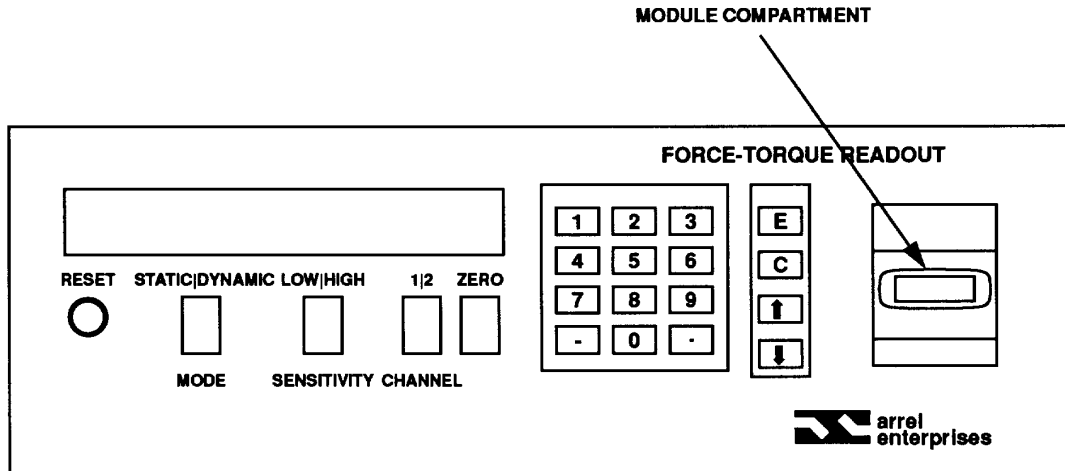

Figure 3. Force-torque readout - front panel.
- f.** Insert EEPROM module into MODULE COMPARTMENT (fig. 3) (if it is not installed).